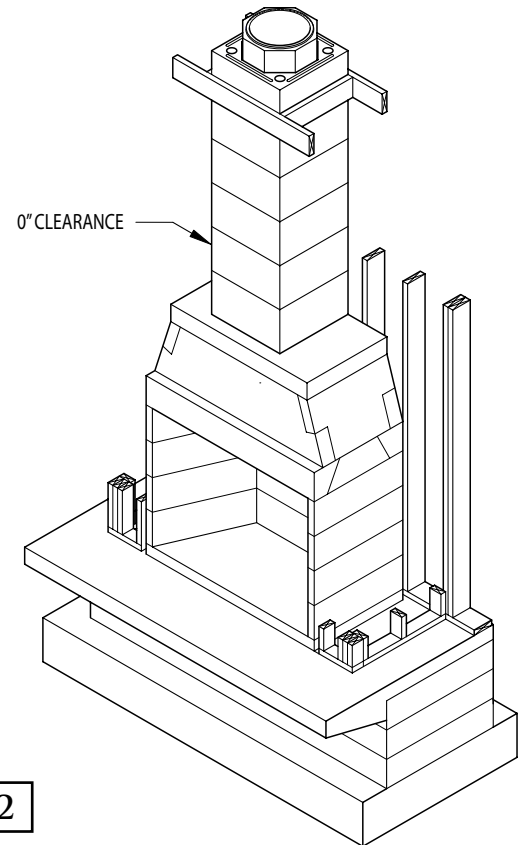

FIGURE 2
All DM 44 and 54 chimney components require 0” clearance. (Figure 2).
The Magnum Series fireplace must sit upon a concrete support slab designed to bear the total installed weight of the fireplace and DM 54 chimney system. (See Figure 2 for additional details). These support slabs can have no wood underpinnings. (Figure 3)
B. Concrete support slabs for MAGNUM Series fireplaces must provide the noncombustible hearth extension substrate needed to support the code required noncombustible hearth extension finish materials. (Figures 2 and 3)